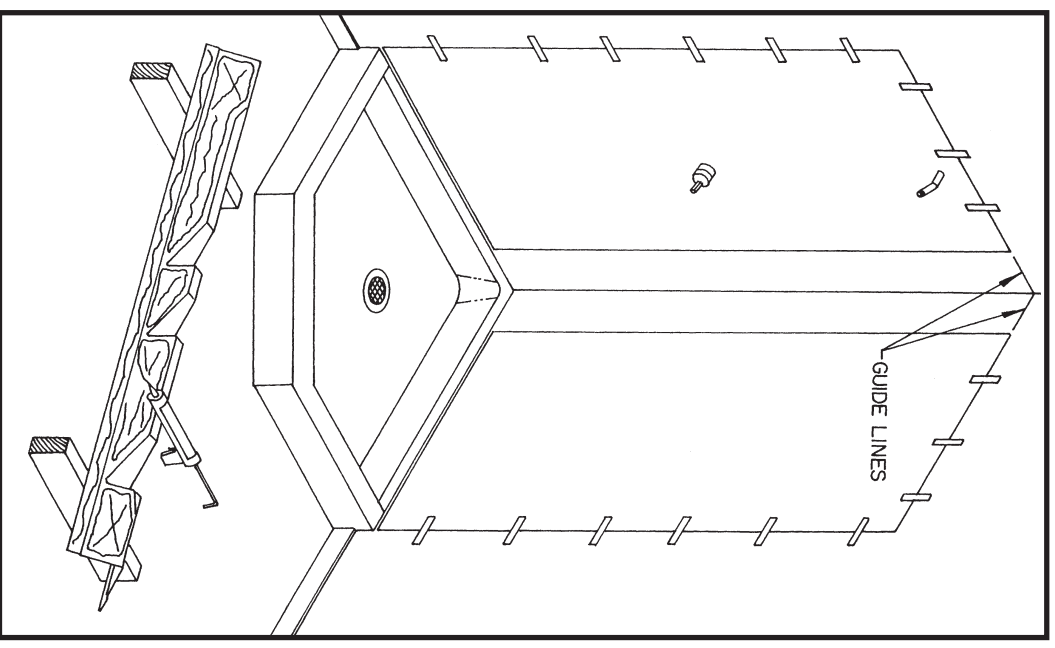

Fig. 2
5. Apply adhesive to back side of Formed Corner as shown in illustration (Fig. 2). Align top edge of corner panel with guide lines and press in place, working from top to bottom. Short strips of masking tape may be applied to hold corner panel in place until adhesive begins to bond.